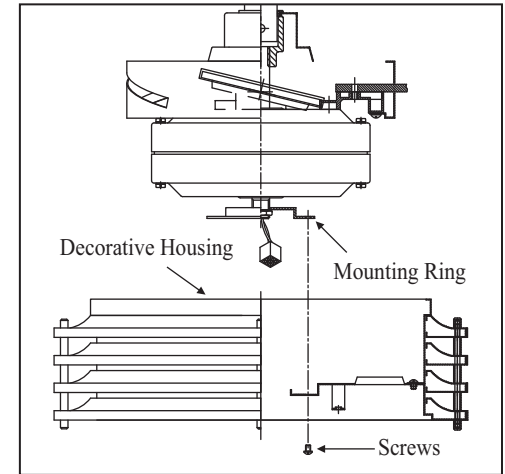

Figure 16
2. Place the key holes on the decorative housing over the 2 screws previously loosened from the mounting ring, turn decorative housing until it locks in place at the narrow section of the key holes. Secure by tightening the 2 screws previously loosened and the one previously removed. (Fig. 16)